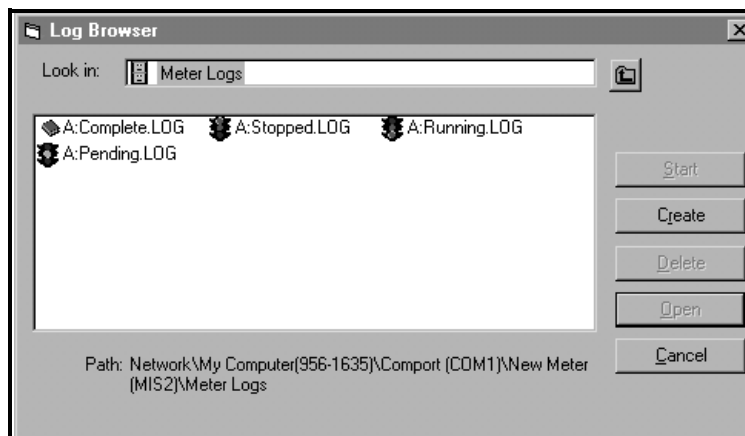

Figure 25: *Log Browser* Window
3. Double-click on *PC Logs* to access the stored PC logs, or on the *communication port* name and the *meter* name to access the stored meter logs. In either case, the *Log Browser* appears similar to Figure 25.